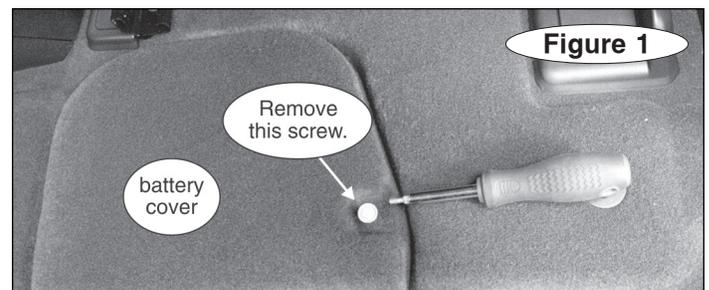

Figure 1
2. Remove the rear passenger side floor mat, if present. Loosen the screw shown in Figure 1 using a Torx head driver with a #20 Torx bit; lift and pull the battery cover to remove it.